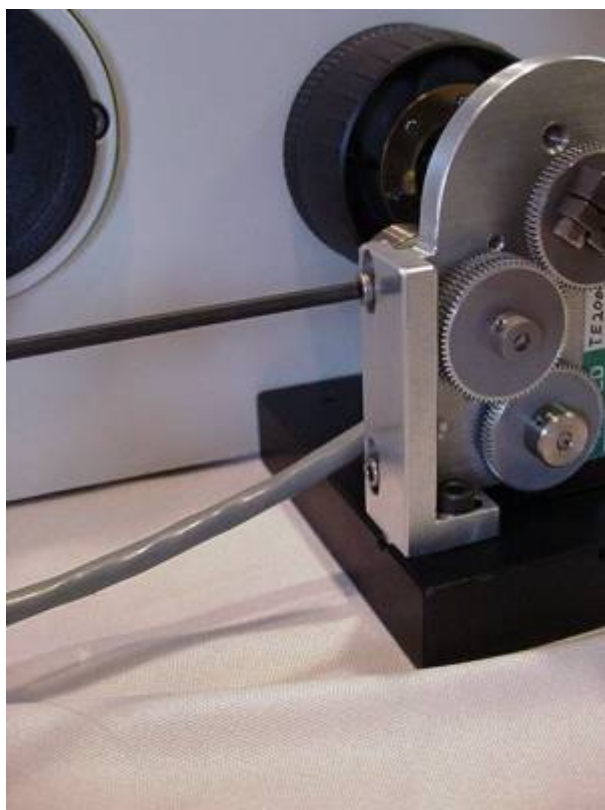

Figure 6 Loosen Vertical adjustment screws
- Loosen the two Vertical screws that secure the drive to the adjustment bar as shown in figure 6. Use the 7/64" hex wrench. Loosen the screws just enough so that the drive can slide easily in the groove in the adjustment bar.